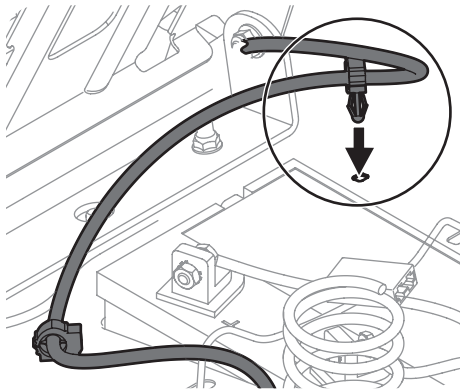

Figure 2-4
4. Using the harness clip attached to the harness, secure the excess wire to the fender by snapping the harness clip in place as shown in Figure 2-4.